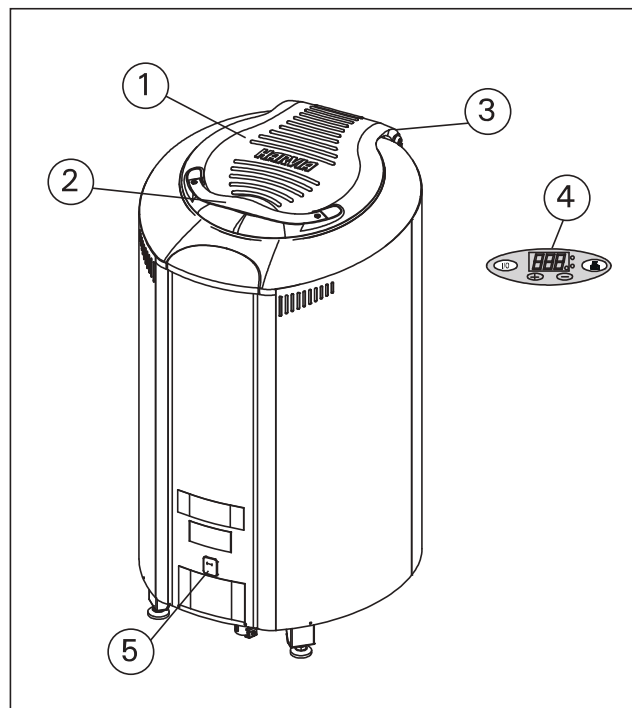

Figure 1. Heater parts
2. Handle to safely open and close the cover (fig. 1).
The I/O button is used to switch the heater heating elements on and off. For this to happen, the electric switch must be switched on (see figure 1). The indicator light burns under the I/O button to indicate standby mode.
When the heater cover 1 (fig. 1) is opened, the air flowing through the hot stones and the heating elements begins to heat up the room. To ensure that the thermal energy stored in standby mode remains in the heater stones despite the cooling effect of air currents and the water thrown on the stones, the heater power should be switched on during bathing